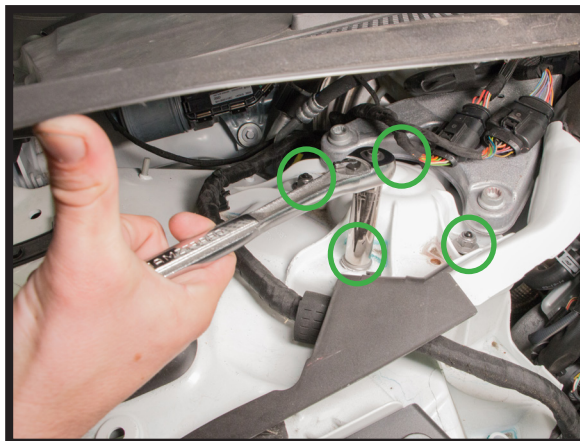

FIGURE 5
6. REFER TO OWNER'S MANUAL FOR SHOCK REMOVAL INSTRUCTIONS. REMOVE THE (4) NUTS SECURING THE STRUT IN PLACE. (FIGURE 5)